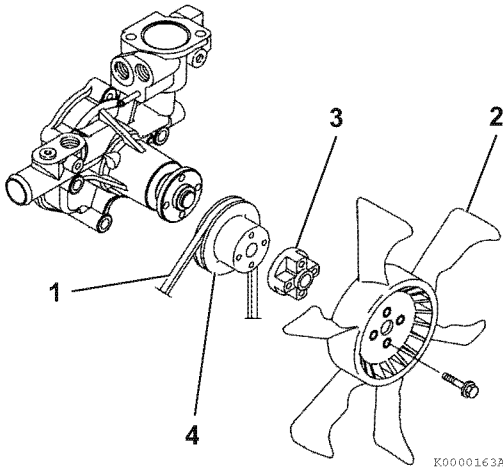

Figure 7-30
12. Reinstall the coolant pump V-pulley (**Figure 7-30, (4)**), spacer (**Figure 7-30, (3)**) (if equipped) and engine coolant fan (**Figure 7-30, (2)**).
13. Reinstall the cooling fan V-belt (**Figure 7-30, (1)**). Adjust it as described in *Check and adjust cooling fan V-belt on page 5-9.*